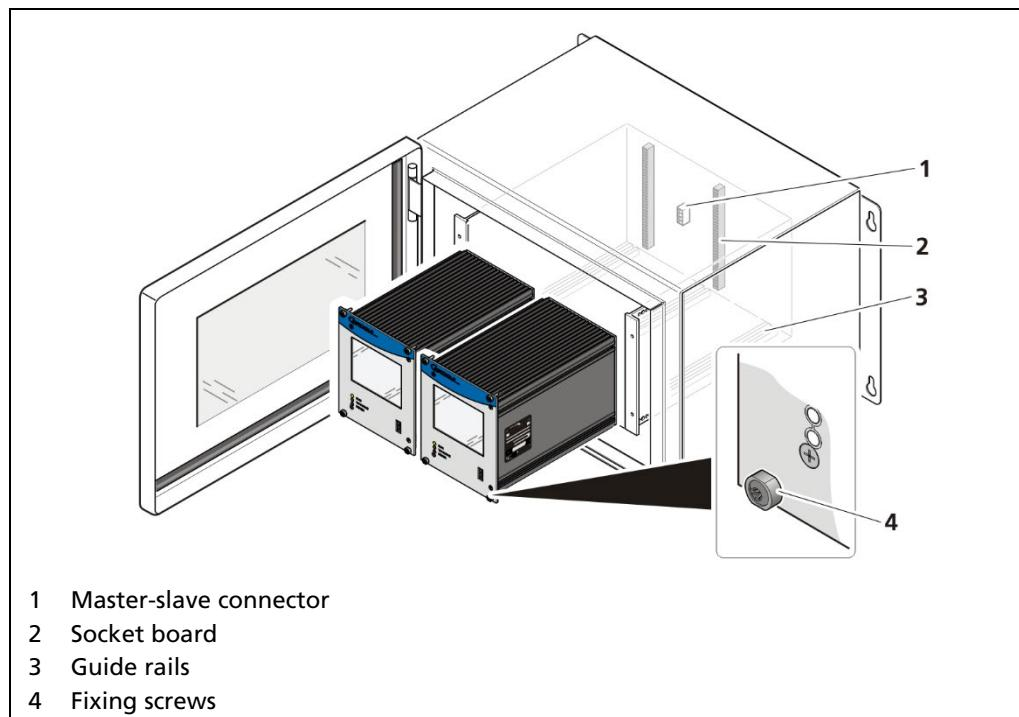

Fig. 14 Installation of the modules (master-master)
1. Set modules into the guide rails and push it gently until the plug connector of the module (Fig. 14, item 2) is inserted into the socket board.
2. Tighten all fixing screws (Fig. 14, item 4).